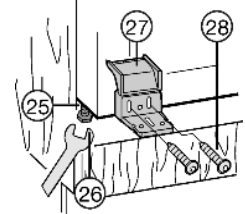

Fig. 21
- ▶ Align the plastic bracket *Fig. 21 (27)* in depth so as to be flush with the front edge of the base of the unit.
- ▶ allow for additional space needed: align plastic bracket *Fig. 21 (27)* parallel to the front edge of the hinge.
- ▶ Align plastic bracket *Fig. 21 (27)* in depth so as to be flush with the front edges of the side walls of the unit, even if the bracket projects over the base of the unit as a result.
- ▶ Level the appliance by means of the adjustable feet *Fig. 21 (25)* using the accompanying spanner *Fig. 21 (26)*.